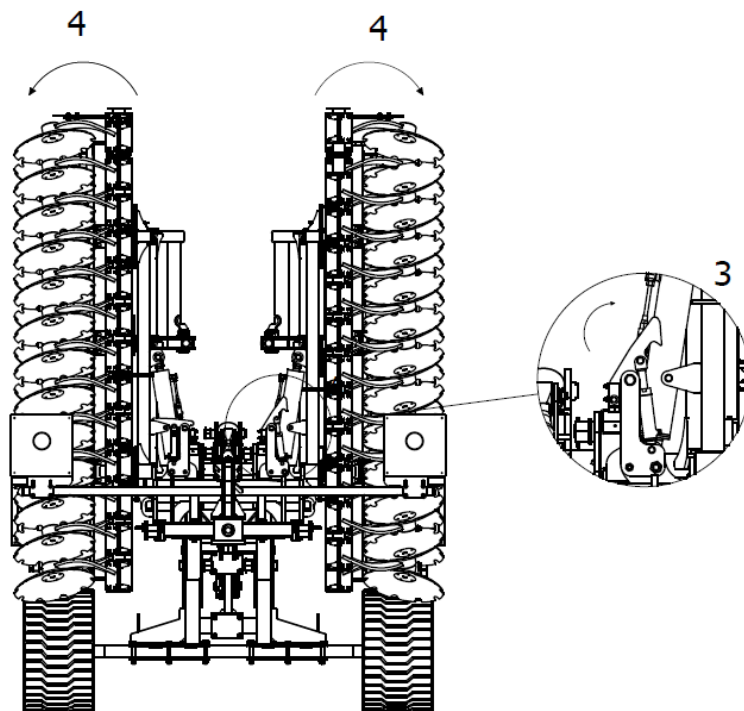

Fig. 21 Implement opening sequence: 3- release the hook of the hydraulic side extension lock mechanism, 4- open the implement side extensions.
3. Then, after making sure that the hook of the hydraulic side extension lock mechanism allows the machine side extensions to be unlocked, proceed to open them fully (Fig. 21).